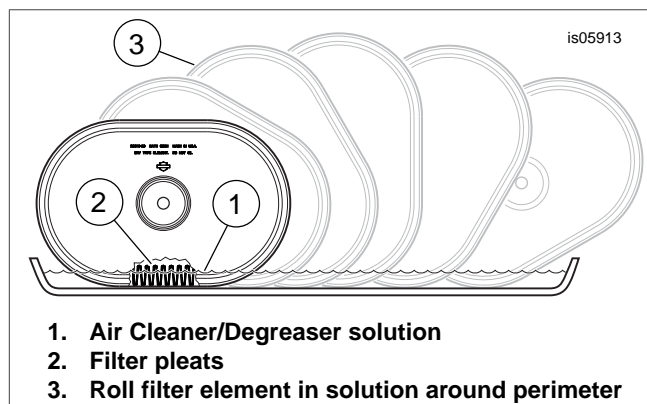

Figure 2. Cleaning the Filter Element
2. Clean the filter element as follows (see Figure 2):
- a. Remove and wash the element by immersing it, on edge, in a shallow pan containing enough Air Cleaner/Degreaser (1) to cover **no more than** three-quarters of the depth of the filter pleats (2), about 0.375 inch (9.5 mm). **Do not allow dirty solution to get inside the element.** Carefully "roll" the element in the solution around its perimeter (3) until the entire outer surface of the filter pleats has been soaked.